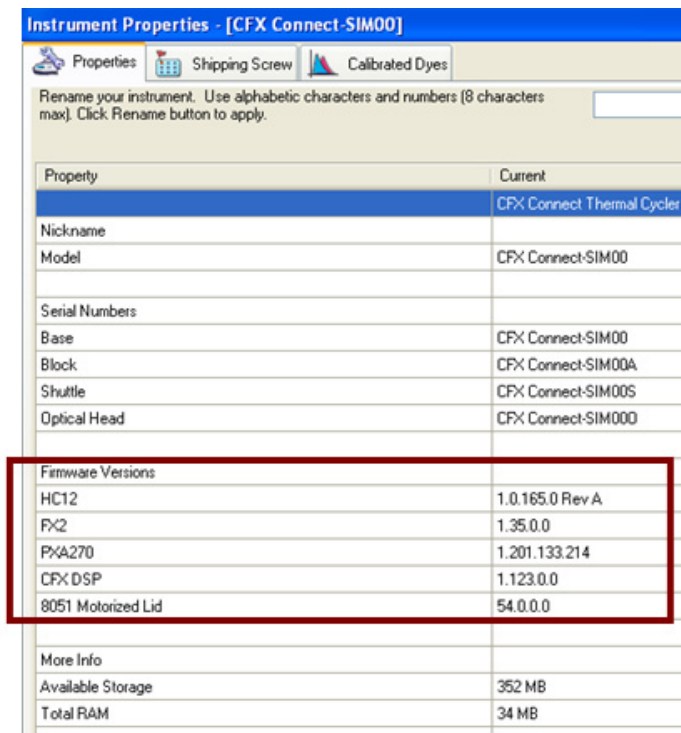

Fig. 2. Installed firmware version displayed in the **Instrument Properties** window.
2. The **Instrument Properties** window displays the installed firmware version (Figure 2).